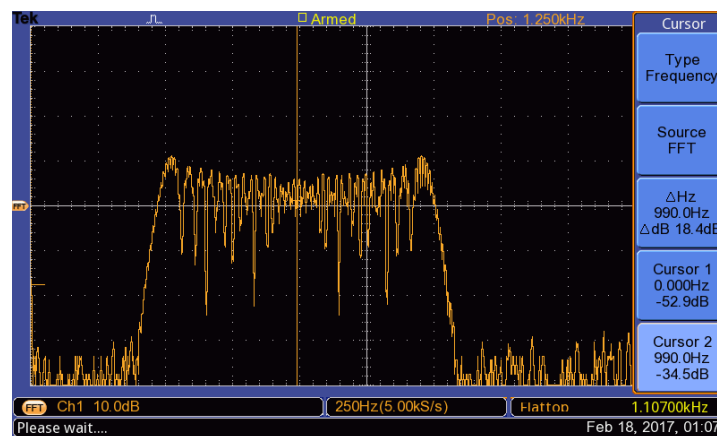

Figure 12: FM modulation with larger deviation.
- The amplitude of the information, E.g. The volume of your voice, is conveyed by how far the carrier deviates back and forth. Press **Shift** -> **Level** and change the deviation to 500 Hz. This represents a larger amplitude. Small deviation conveys a small amplitude and a large deviation conveys a large amplitude. See figure 12.